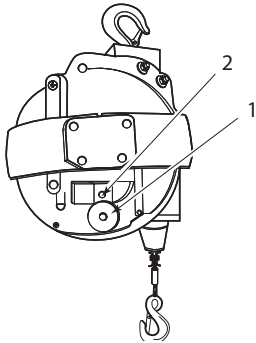

Figure 1
1. Disassemble and remove large manual lock knob (1) by inserting a 3 mm Allen wrench into the pinhole (3). (see figures 1 & 2)